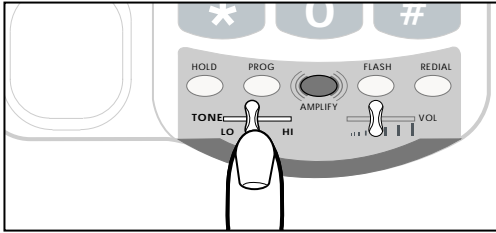

Figure 12 - Tone Slide Control
2. Adjust the **TONE** slide control in Figure 12 to suit your hearing.